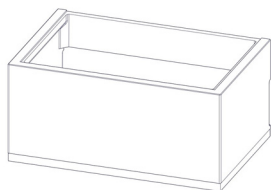

**FIG 26** Davos A High\_N-29A
**FIG 26 a** Davos A High\_N-29A